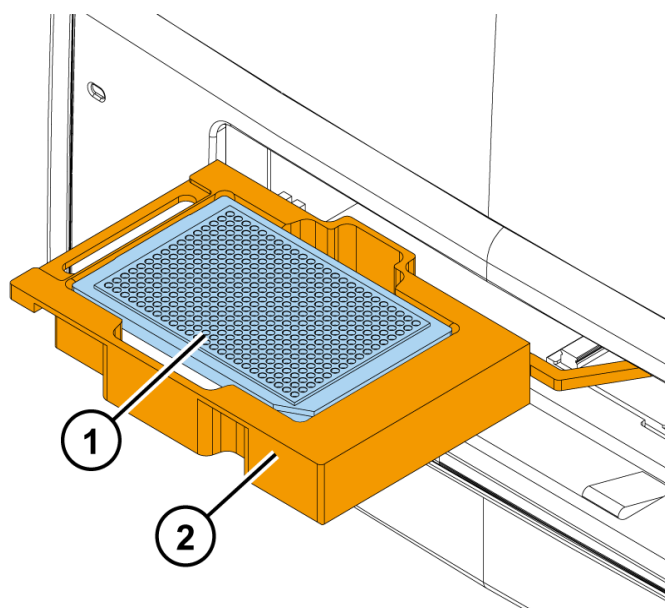

Figure 4–36 Microplate loaded
4. Load the microplate onto the plate tray for measurement (Figure 4–36).
Always insert the microplate so that the A1 corner is positioned in the top left corner of the tray (Figure 4–36). The tray frame is marked with A1 to facilitate correct insertion of the microplate.